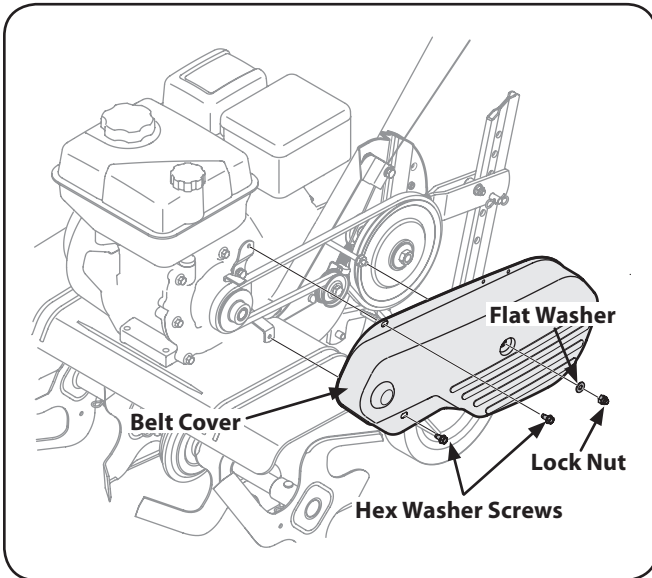

Figure 1-1
2. Remove the belt cover from the left side of the tiller by removing the two hex washer screws and the lock nut and washer. See Figure 1-1.